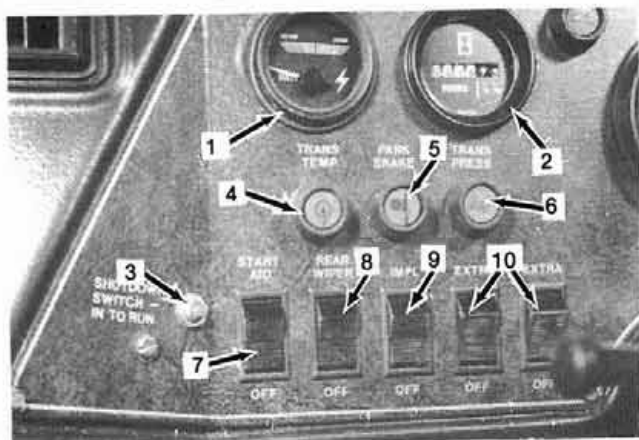

Figure 7: Left Side of Dash
NOTE: Earlier production tractors did not have this feature. These models may be identified by the presence of the red "reset" button on the left side of the dash panel (see Figure 7, item 13). On this system there is no tone alarm and engine shutdown would occur immediately if a malfunction should occur. The red button would need to be pushed in to "reset" the system before the engine can be started.